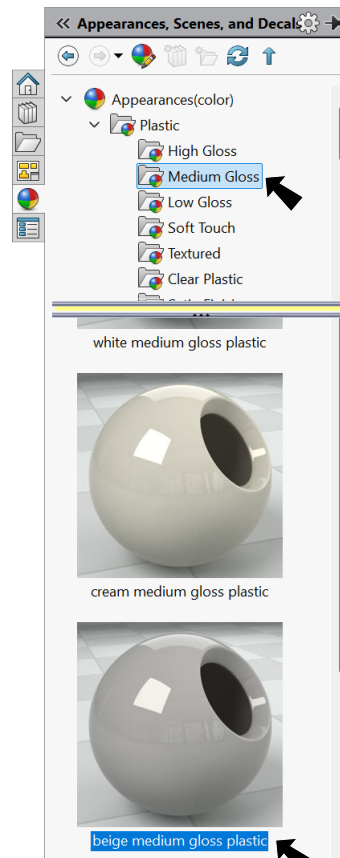

Fig. 36
Step 2. In the Appearances Task pane, expand **Plastic**, click **Medium Gloss** and in the lower pane select **beige medium gloss plastic**, Fig. 36.